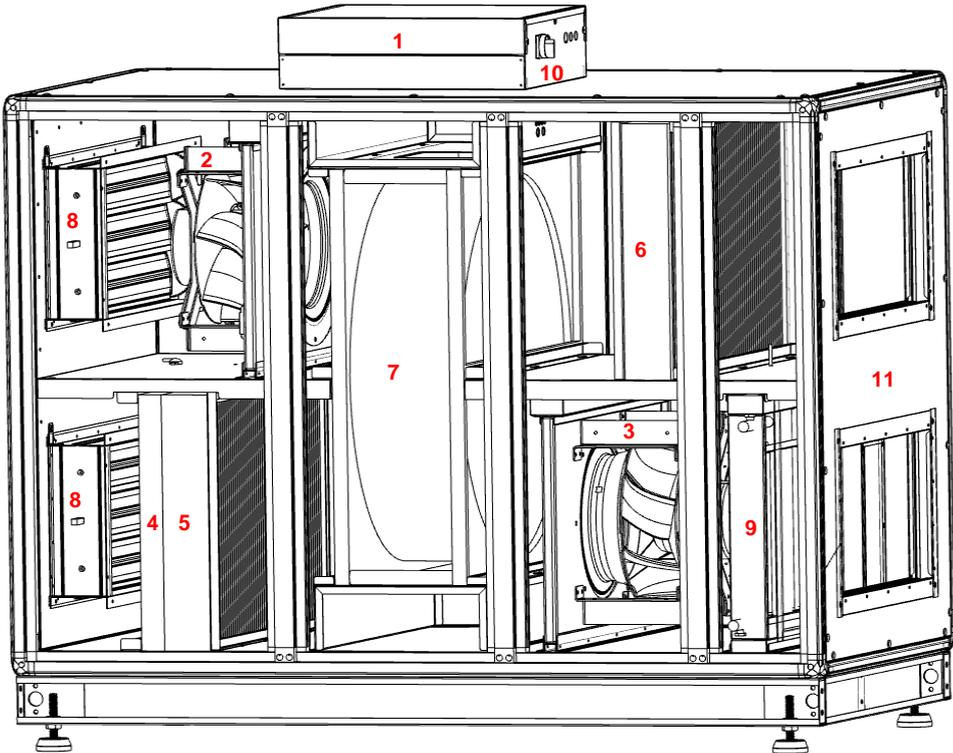

Fig. 20
- Sectional view of standard unit including internal accessory (Fig. 20)